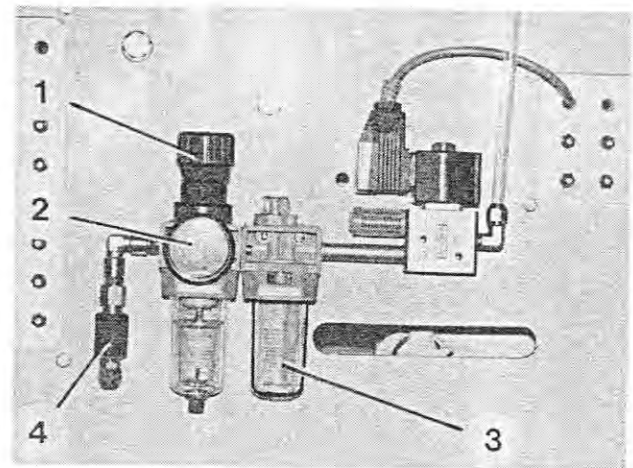

Fig. 84
1. Open the sleeve valve (Figure 84/4) and check on the pressure gauge (Figure 84/2) of the pressure reducer whether it indicates 1 bar. If necessary, correct the pressure using the control knob (Figure 84/1).
3. Check whether there is sufficient oil in the storage vessel (Figure 84/3) of the oiler. Top up with oil, if necessary. (Refer to section 5.6.)